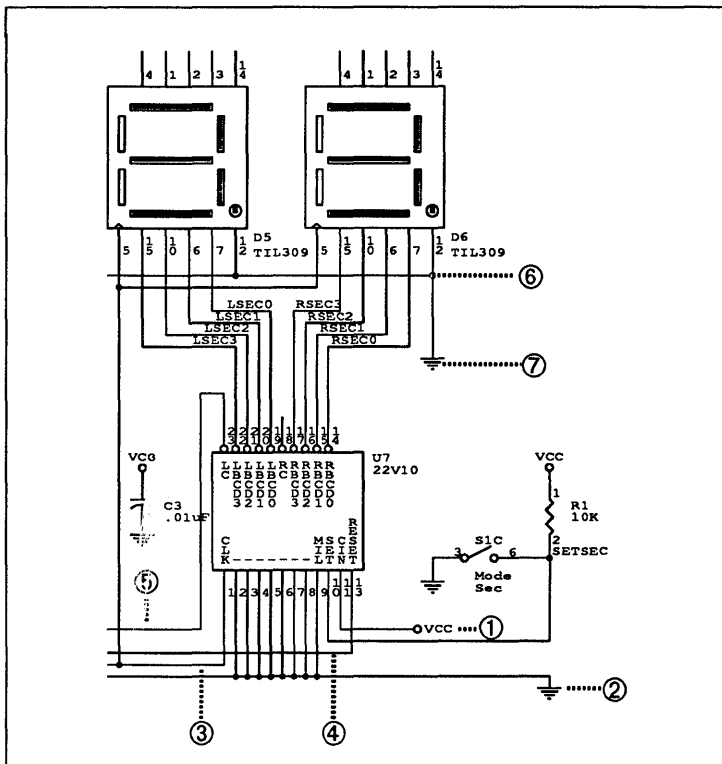

Figure 6-4. Seconds area of the clock logic. The callouts refer to the step numbers in this section.
1. The horizontal wire from the 22V10's pin 11 should be shortened. Referring to the ① in figure 6-4, delete the wire and redraw it so that it is only six or seven grid spaces long.